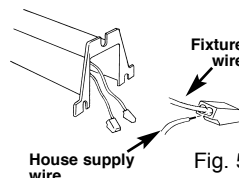

Fig. 5
Step 2: Simply insert the black supply wire from your house into the quick connector with the black wire coming from the fixture (Fig. 5).
Step 3: Insert the white supply wire from your house into the quick connector with the white wire coming from the fixture (Fig. 5).